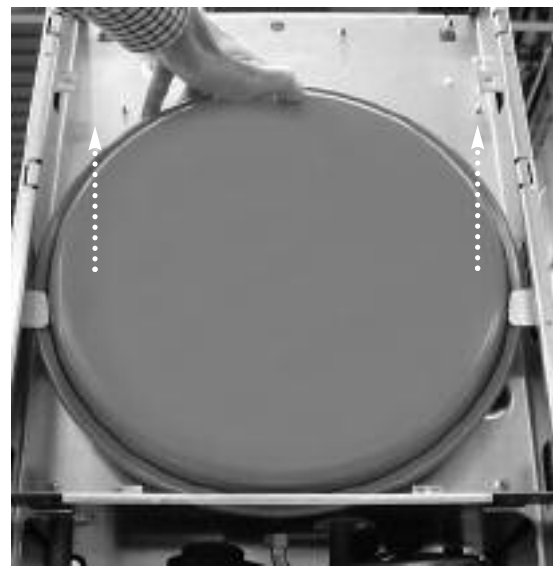

Fig. 98
5. Pull the expansion vessel to remove it (see Fig. 98);